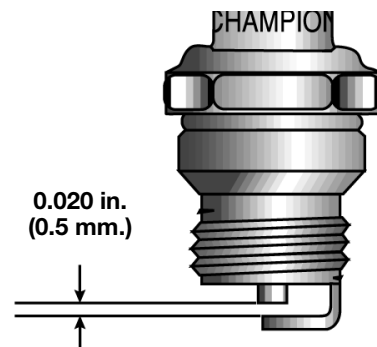

Fig. 30
3. Replace cracked, fouled or dirty spark plug. Set the air gap at **0.020 in. (0.5 mm.)** using a feeler gauge (Fig. 30).